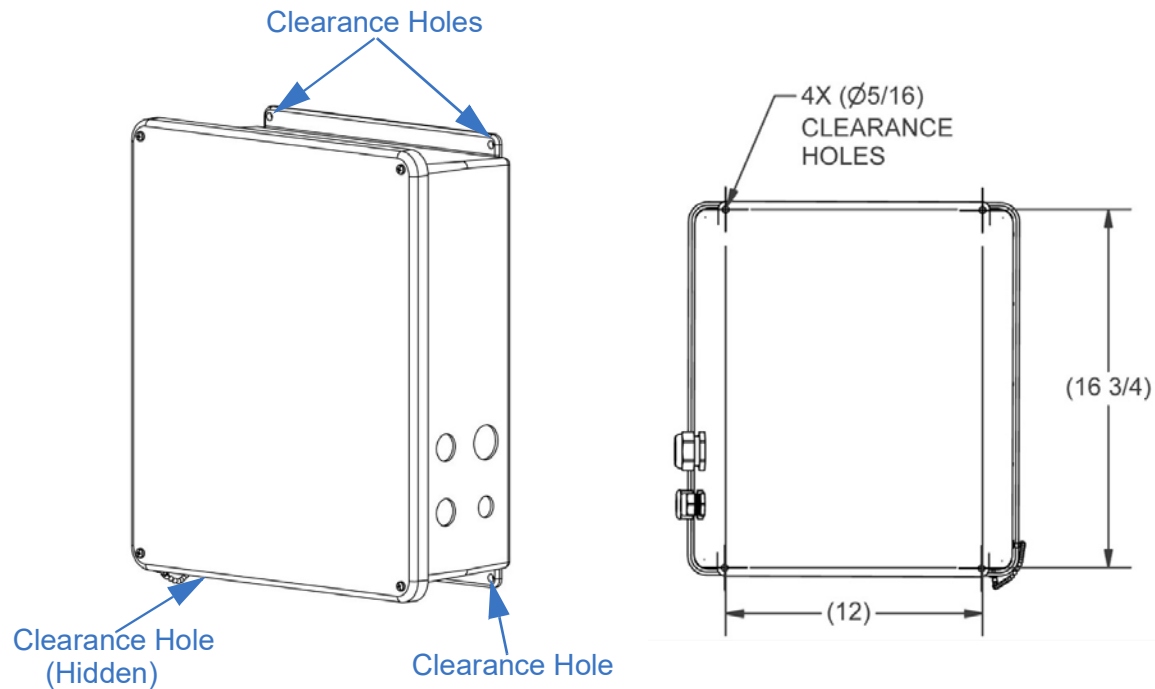

Figure 5-15 Night Scan Vertical HDT Control Box Clearance Holes
1. Mount the unit through the clearance holes located on the back of the control box (Figure 5-15).